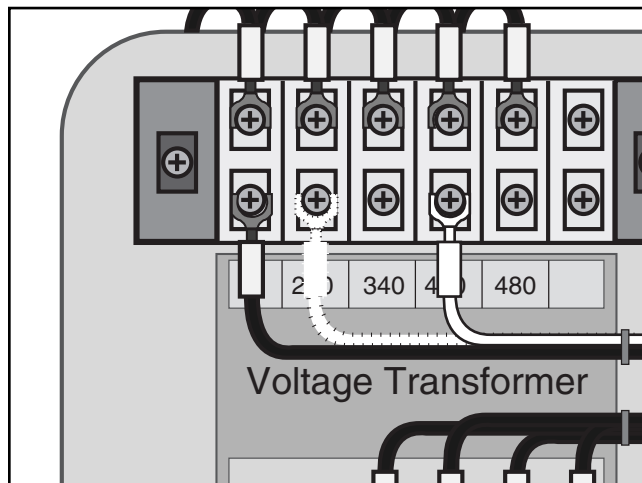

Figure 3. Wire removed at 220V location and connected to 440V location.
3. At the voltage transformer, remove the wire that leads to the “220” terminal and connect that wire to the “440” terminal (see **Figure 3**).